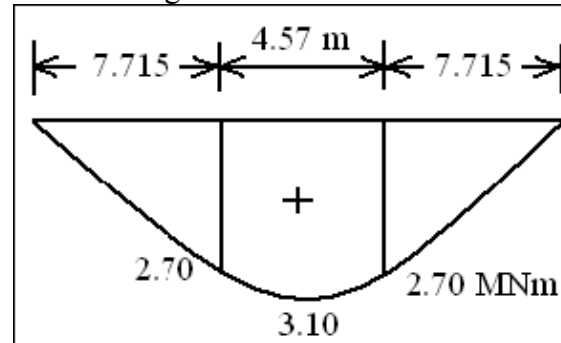

figure 3
4. The following figure 3 indicates the Bending Moment diagram. Develop the loading and Shear force diagram for the beam. [16]